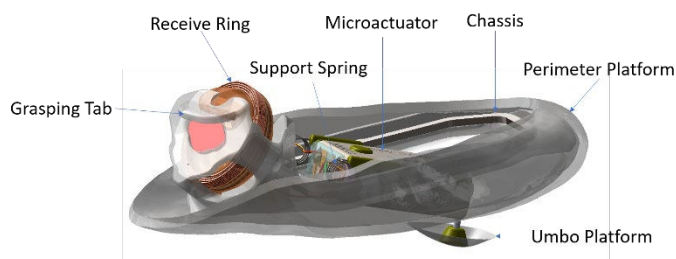

Figure 2. Tympanic Lens
The Lens (Figure 2) is designed to receive electromagnetic energy from the Processor and Ear Tip and convert it into mechanical vibrations of the tympanic membrane (TM). These vibrations are perceived as sound. The Lens is customized for each patient and is placed in to position by a trained physician. It is placed at the end of the ear canal on the skin around the TM.